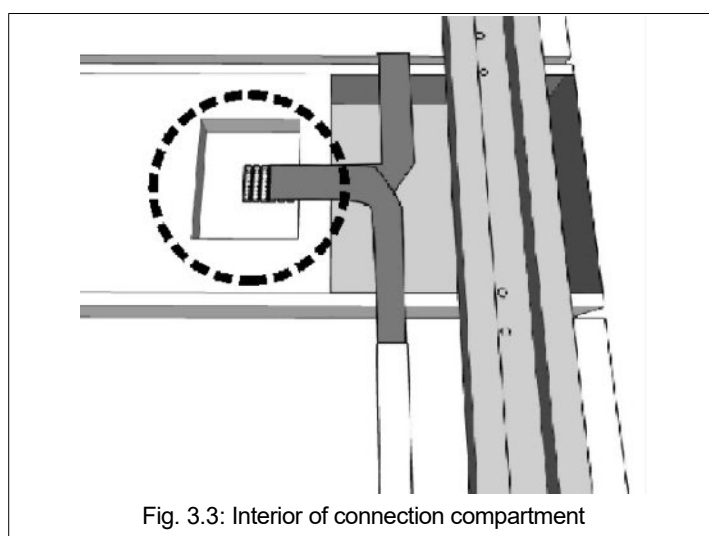

Fig. 3.3: Interior of connection compartment
2. Connect the flat cables attached to the modules to the electronic board connectors (Fig. 3.3) housed in the connection compartment.